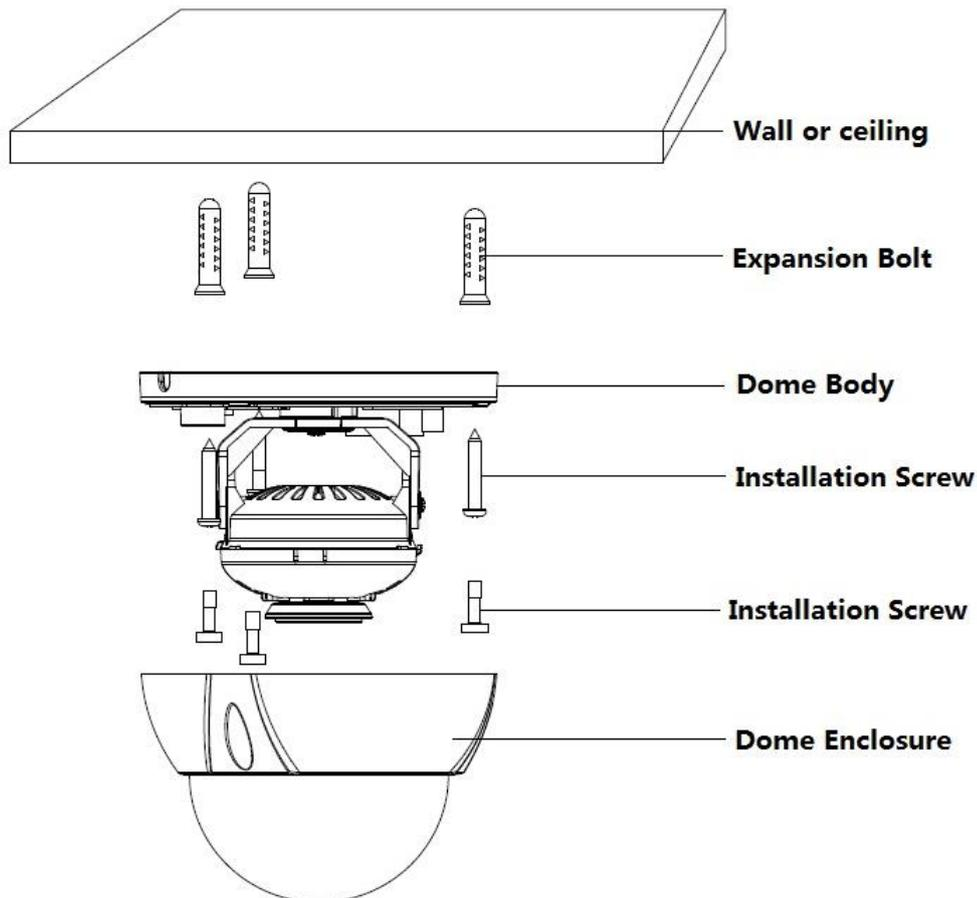

Figure 2-1 Device installation illustration
- Different models may have different ways of installation according to the different appearances, please refer to Figure 2-1 according to the actual product.